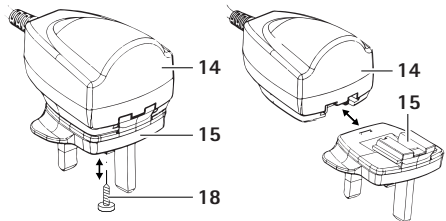

Fig. 3
- Loosen the fixation screw 18 in adapter 15, see Fig. 3.
- Push the adapter 15 onto the power supply 14 until the lock 16 clicks into place, see Fig. 3.